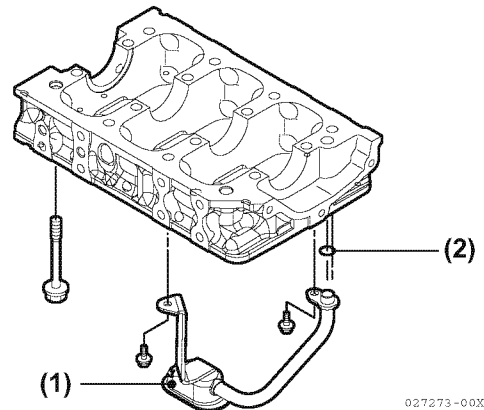

Figure 6-102
1. Reinstall the oil pickup tube (Figure 6-102, (1)) and a new O-ring (Figure 6-102, (2)).